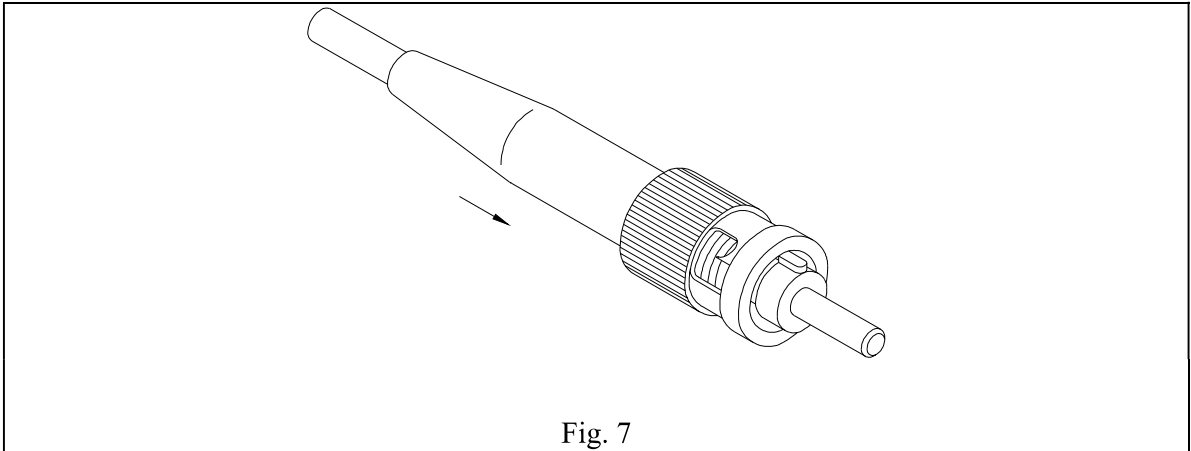

Fig. 7
Step 10 Slide the boot over the crimped tube shown in Fig. 7 and carefully mount the connector onto the curing fixture and place that into curing oven.